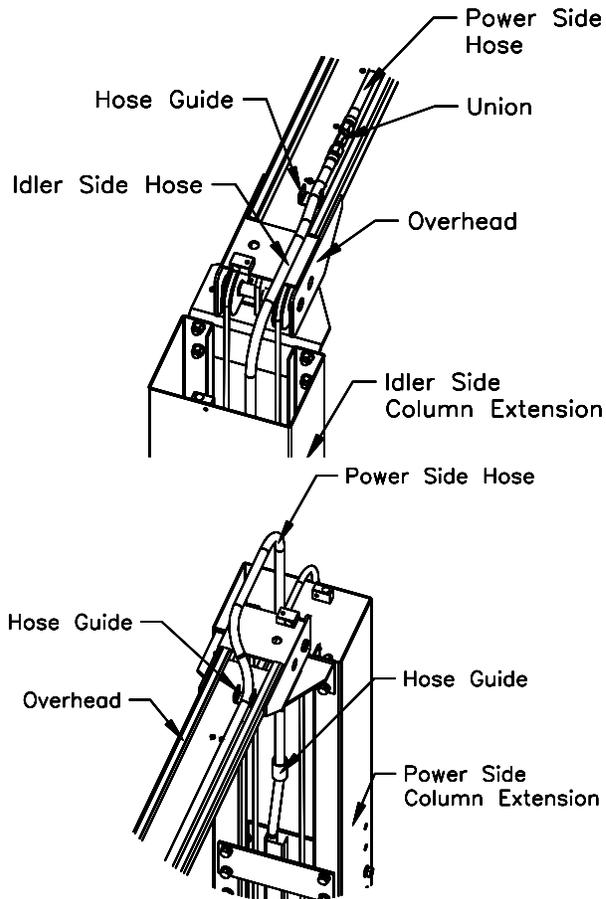

Fig 10 – Hydraulic Hose Routing
- 17) The Hydraulic hoses are pre-routed in each column. Uncoil the hoses at the top of each column and route through the guides in the column extension, over the ends of the overhead and through the guides of the overhead. Join these hoses with the hydraulic union supplied. Tie the hoses to the guides in the overhead. Refer to **Fig 10** below.